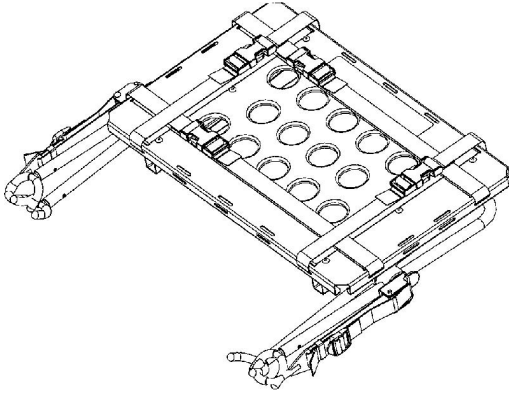

Figure 36
1. Place the defibrillator platform in the stored position as shown in Figure 36.